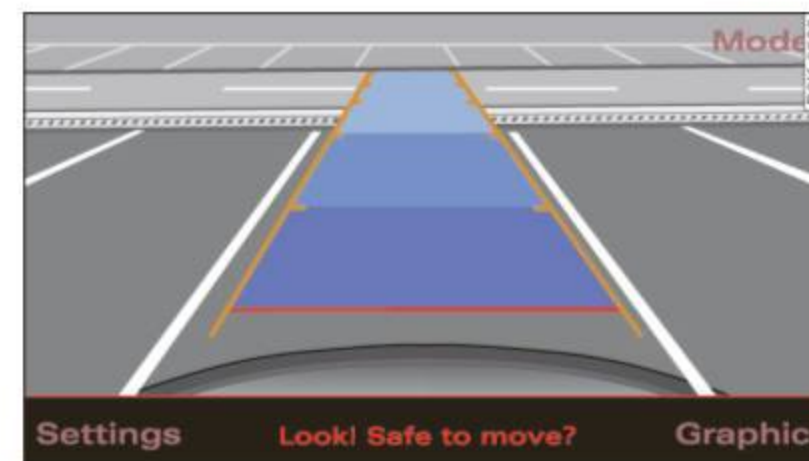

Fig. 151 MMI Display: Aligning the vehicle
- Align your vehicle to correspond with the blue area ⇒ *page 141, fig. 151*. The blue area represents an extension of the vehicle's outline by approximately 5 m to the rear. The transitions of the blue surfaces are distanced approximately 1 m, 2 m, and 5 m away from the vehicle.